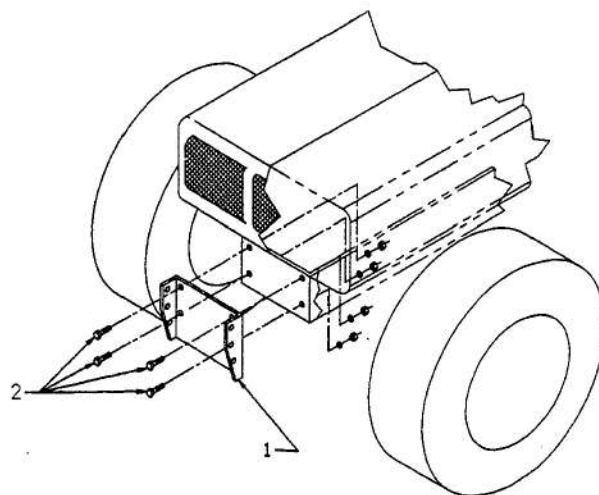

FIGURE 1
- b) Install front support bracket (fig.1, item 1) using bolts and lockwashers from bumper (fig.1, item 2). Tighten securely.